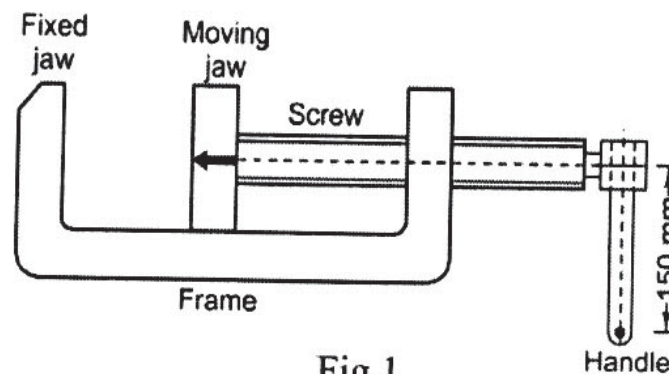

Fig.1
- b) A machine vice, as shown in Fig. 1 has single-start, square threads with 22 mm nominal diameter and 5 mm pitch. The outer and inner diameters of the friction collar are 55 and 45 mm respectively. The coefficients of friction for thread and collar are 0.15 and 0.17 respectively. The machinist can comfortably exert a force of 125 N on the handle at a mean radius of 150 mm. Assuming uniform wear for the collar, calculate; [12]